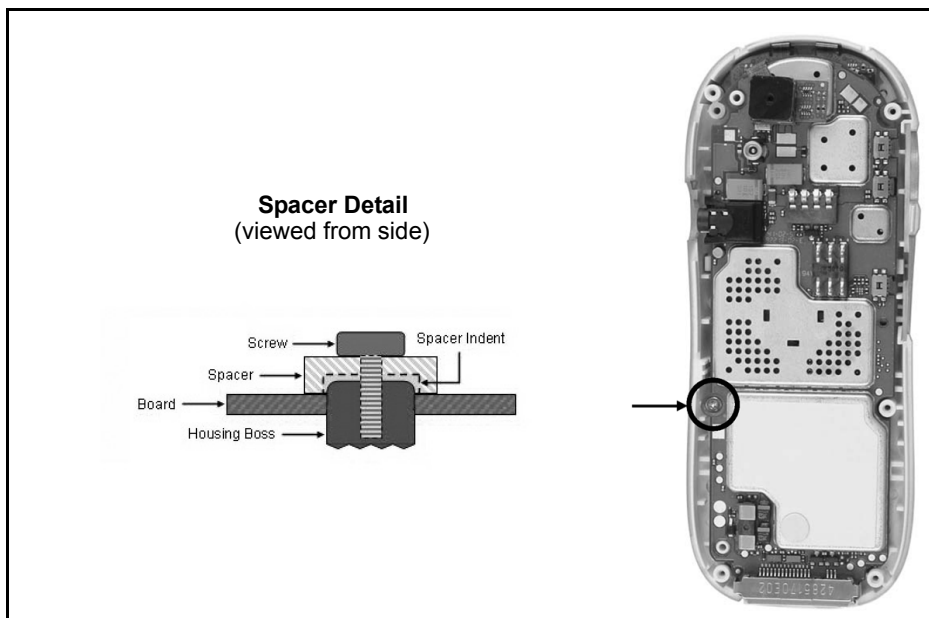

Figure 7-8.
3. Remove 6th screw holding board to front housing. Note location and orientation of plastic spacer and indent. See Figure 7-8.
1. Insert 6th board screw with spacer indent down on housing boss. See the Spacer Detail in Figure 7-8.